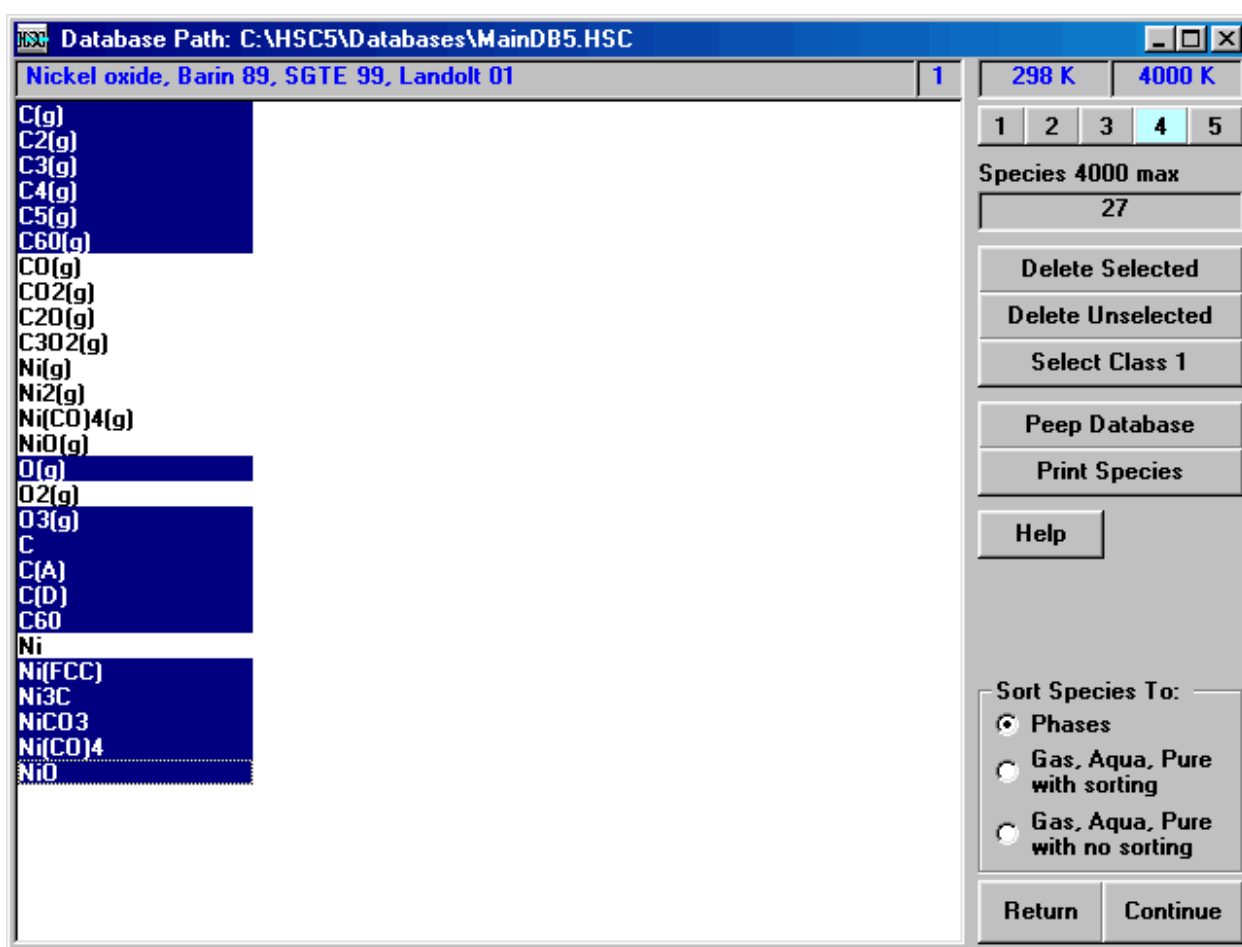

Fig. 3. Deleting undesired species.
3. Press **OK** and you will see the species found, see Fig. 3. The HSC-program will search for all species which contain one or more of the elements given, first from the Own database and, if not found there, from the Main database.